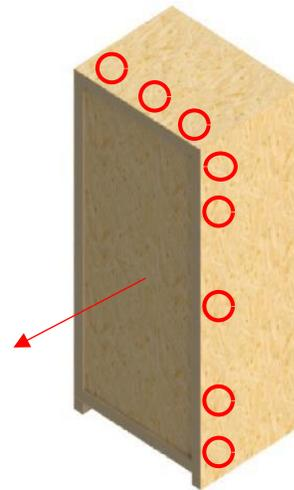

Figure 34
- 4) Unscrew the #8-10 x 1.5" Robertson screws holding the front cover – 5 screws per side and 3 on the top. You might need a stepladder to reach the top screws. (Figure 34)
- 5) Remove the front cover and discard. (Figure 34)